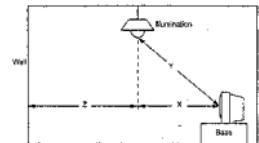

Fig. 1
- Measure X, Y and Z shown in Fig. 1 of the room. And calculate the brightness at the front of the set L by following method.